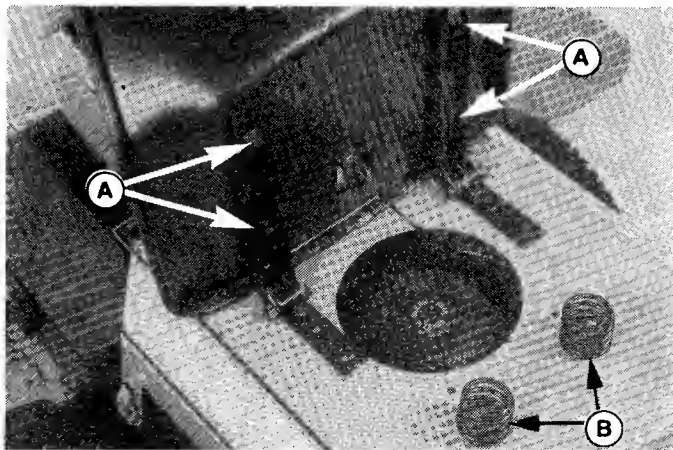

Figure 26. Seat Adjustment
Some models are equipped with a latch which must be released to raise seat as shown in figure 26. Push down on back of seat to release. Be sure the latch bar locks in place after lowering seat.
1. The seat can be moved forward or back for operator comfort. Loosen the four screws (A, figure 26) and move the seat to the desired position. Tighten the screws.
2. The springs (B) can be moved to forward holes for lighter operator. Pull up out of holes to relocate springs.